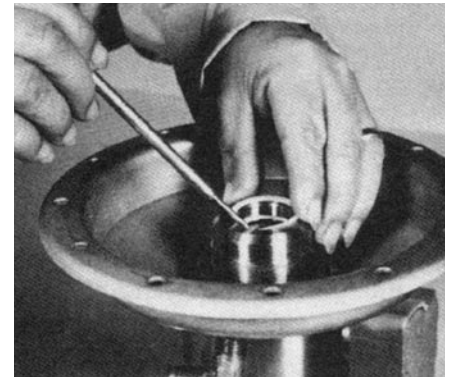

Figure 7-5 Installing seals in fluid body.
7.7 Install new seals in sealing groove in the bore of the fluid body (21), (see Figure 7-5) in the following sequence relative to pump ratio:
- 10:1, 20:1 and 30:1 pumps: packing retainer (18)- bottom, o-ring (17)-middle, and packing retainer (18)-top;
- 35:1 thru 300:1 pumps: back-up ring (18A) on top, o-ring (17) in middle, and packing retainer (18) on bottom of sealing groove.